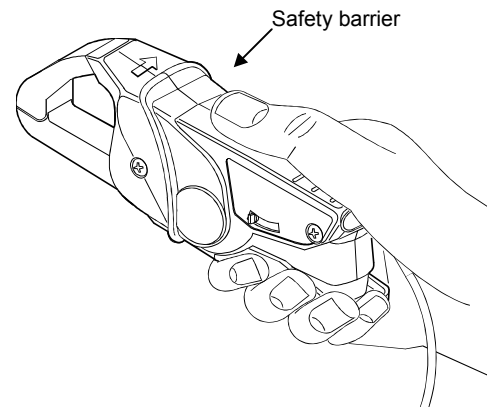

Figure 1. Safely holding the Current Clamp
- Keep your fingers behind the safety barrier as shown in figure1.